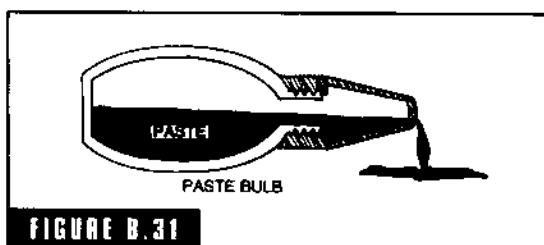

FIGURE B.31
**bulb (paste)** A short-snouted rubber bulb used to apply core paste to the joints of cores for pasting them together (Fig. B-31). Used to run a paste line on the drag of small molds to help prevent a run-out at the joint and over the print on cores to stop metal from running over the ends and stopping off the core vent. Also used to put paste on the handle of the finishing trowel in the back pocket of the molder. When he reaches for his trowel, he will get a good grip.